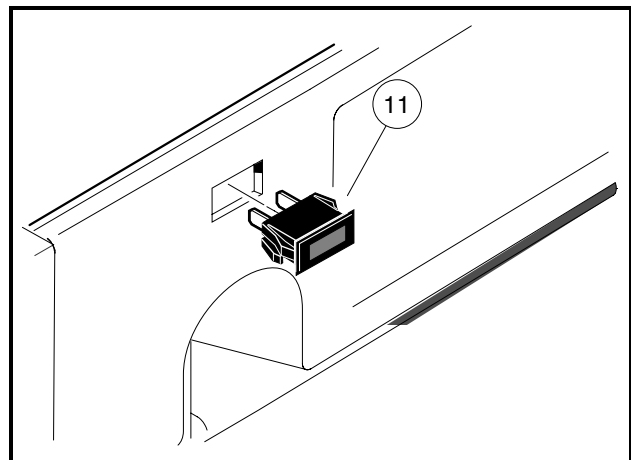

FIGURE 12-54
### Removing the Oil Warning Light (Figure 12-54)
**Installing the Oil Warning Light (Figure 12-54)**
2. Connect yellow wire from the key switch and yellow wire from the oil sending unit to the oil light (11).